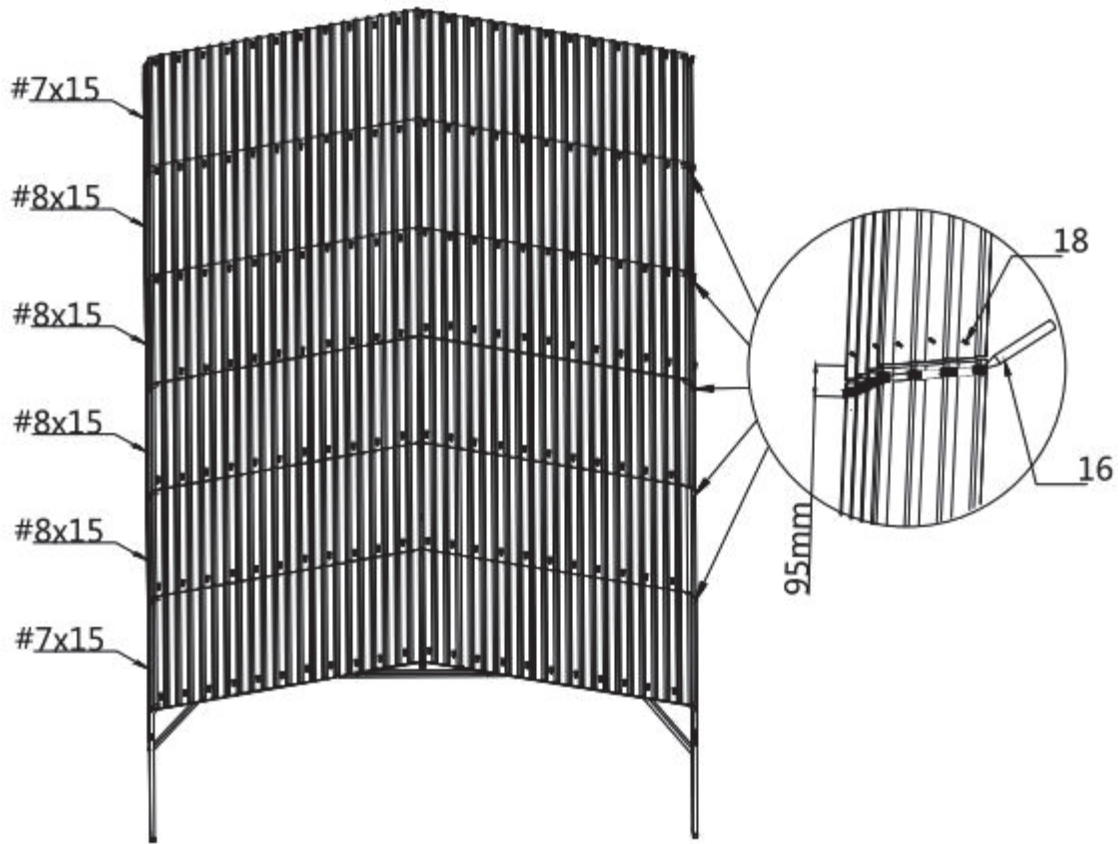

Figure 10
- Install all color iron tiles in turn, make sure that both ends of each color iron tile are aligned, and apply waterproof silicon sealant (#16) on the butt joint of both ends (refer to figure 10).